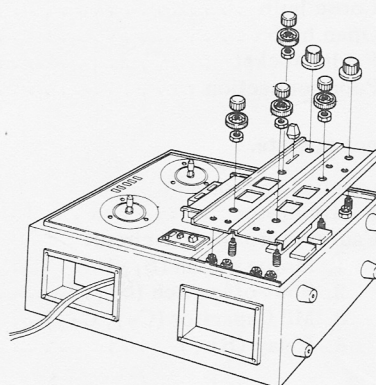

Fig. 2
1. Remove all knobs in Fig. 2.